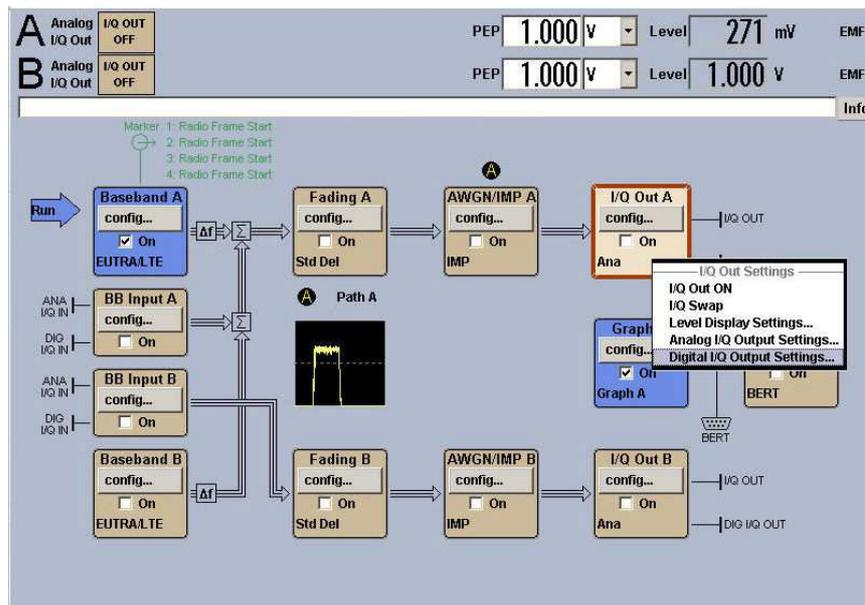

Figure 24: Digital I/Q output settings in the AMU diagram
- ▶ On the generator, select the I/Q Out... block, and then click config (see Figure 24).